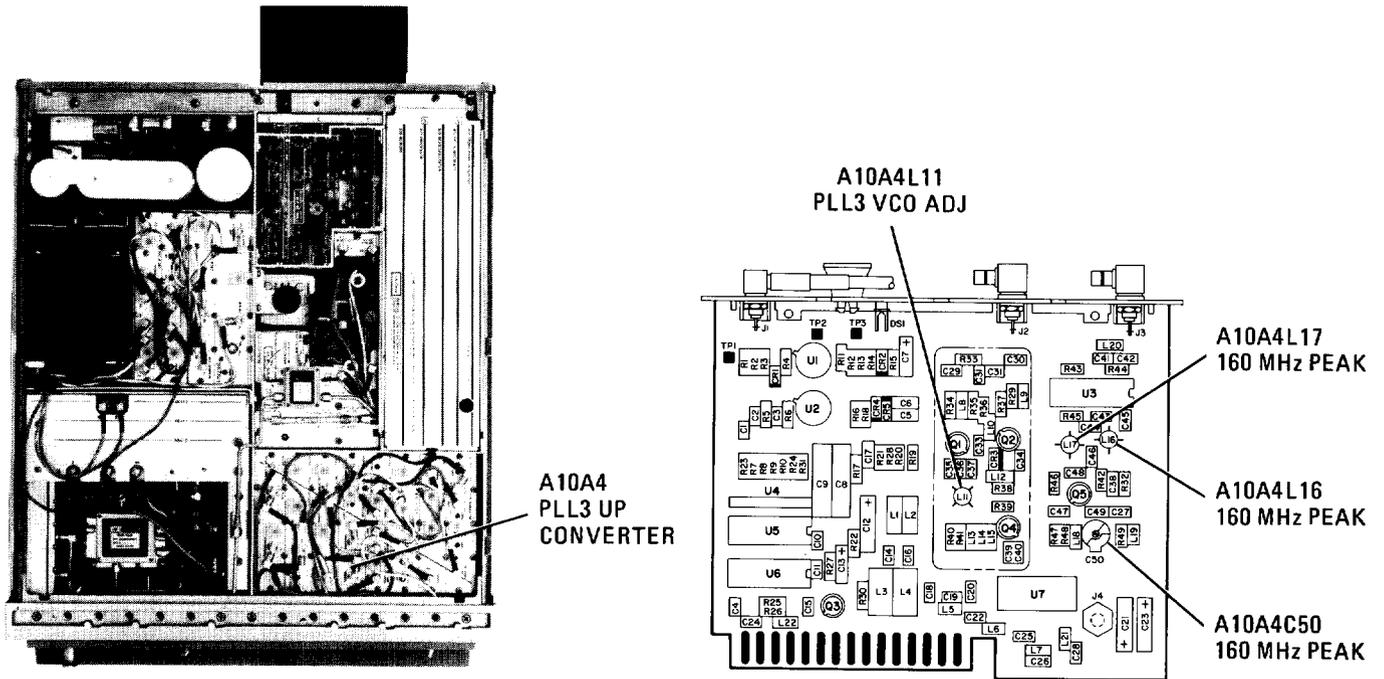

FIGURE 58. LOCATION OF PLL3 ADJUSTMENTS
4. Adjust A10A4L16, A10A4L17, and A10A4C50 160 MHz PEAK for maximum signal level at 160 MHz. Iteration of L16 and L17 adjustment may be necessary. Refer to Figure 58 for location of adjustments.